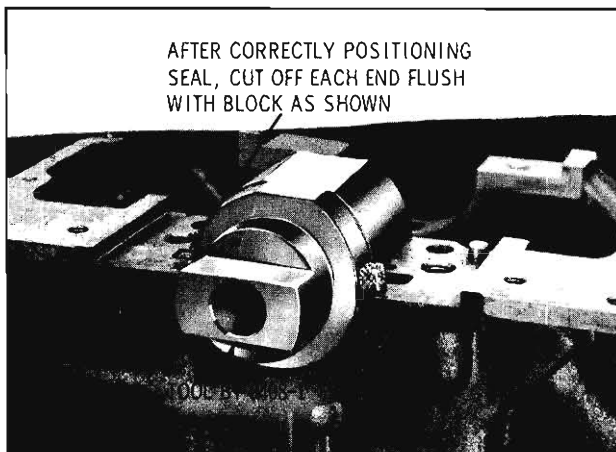

Fig. 3-450 Installing Rear Main Oil Seal-Upper Half
2. Install a new rear main bearing seal. (Fig. 3-450)